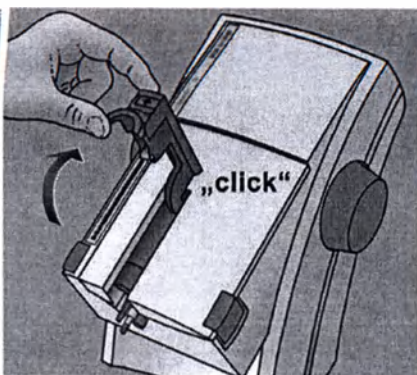

Fig. 14
- The locking lever of the inserted Penta 3 cartridge can be opened when the unit cover is closed so that the mixing tip can be replaced even when the cover is closed (Fig. 14).